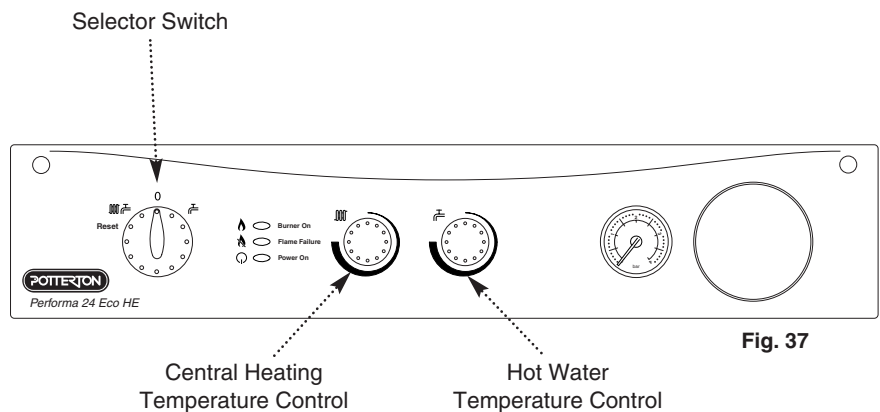

Fig. 37
2. Set the hot water and central heating temperature controls to maximum and the selector switch to the OFF position (Fig. 37).
6. Turn the selector switch to the Cental Heating and Domestic Hot Water position (𐀀𐀀). The power ON light (𐀀) will illuminate (Fig. 37).